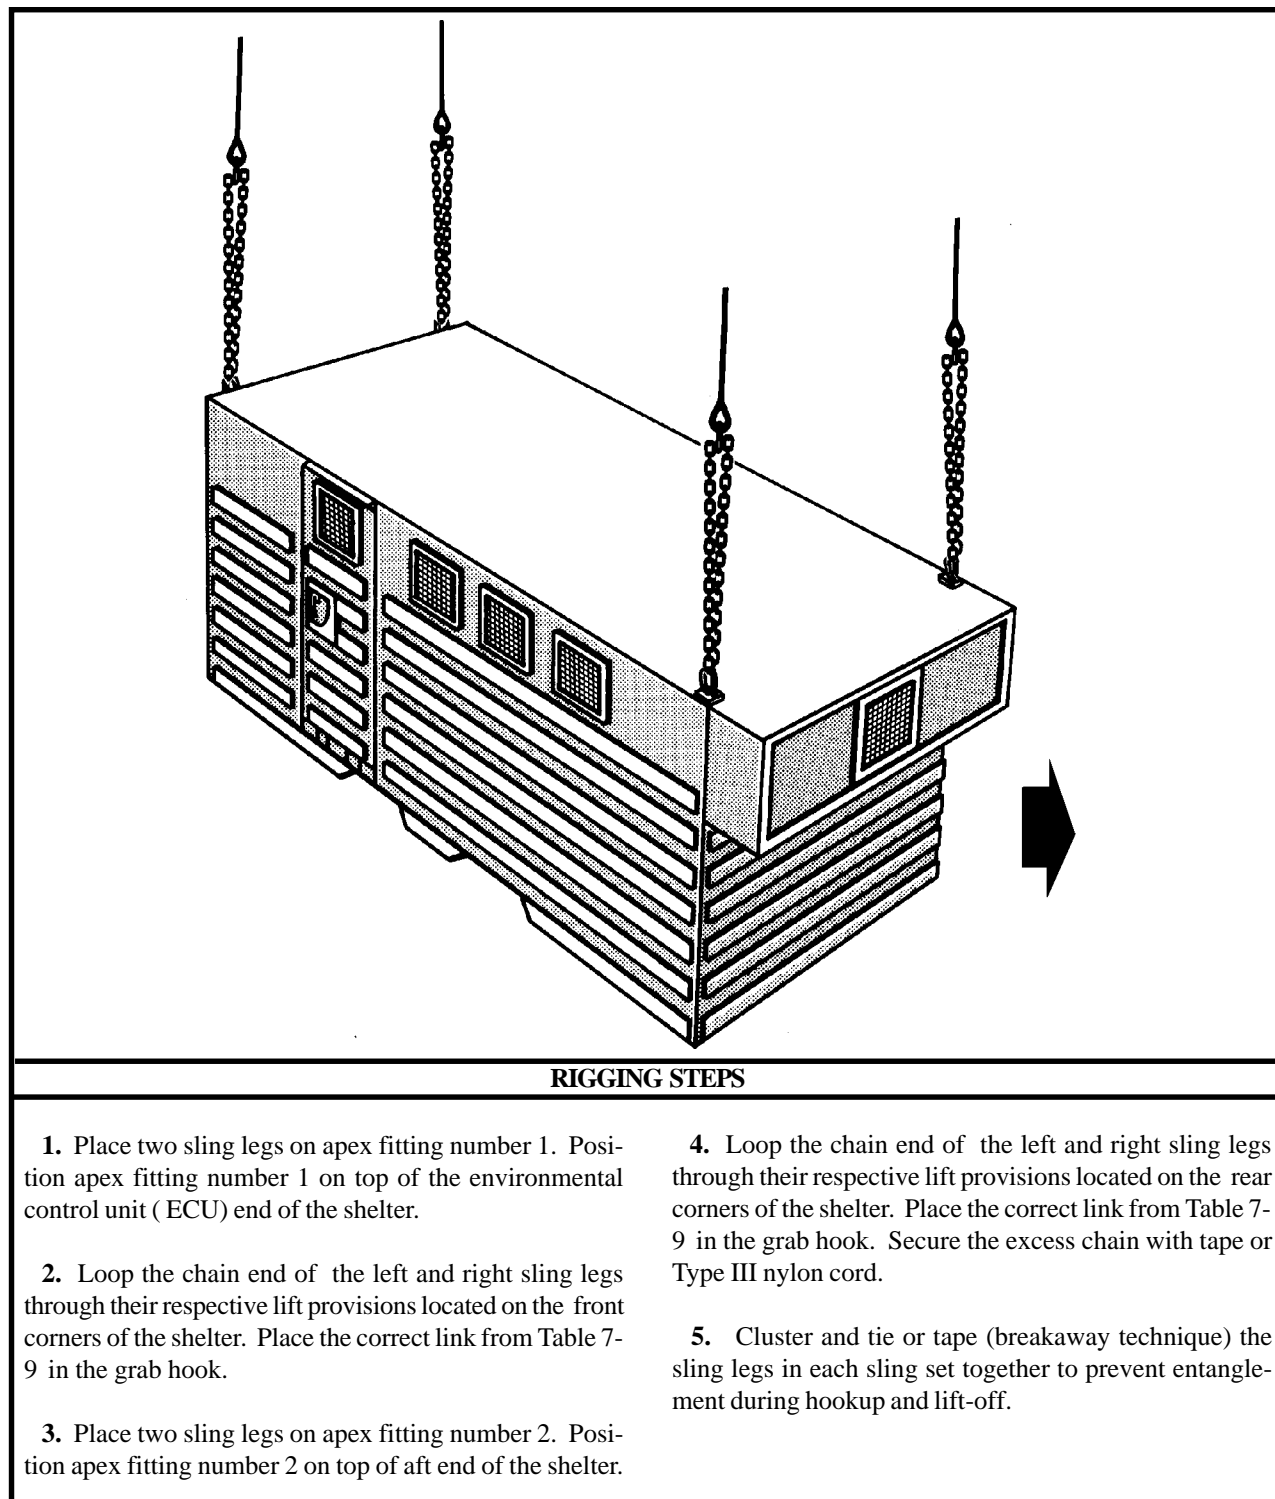

Figure 7-9. Platoon Support Van/Maintenance Center, M32
(2) **Rigging.** Rig the load according to the steps in Figure 7-9.
(4) **Derigging.** Derigging is the reverse of the preparation and rigging procedures in steps d (1) and d (2).